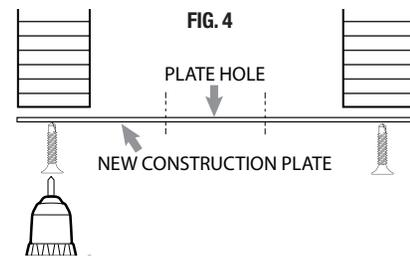

FIG. 4
3. INSTALLING MOUNTING PLATE AND PREPARING THE CEILING: Place plate in desired position and screw into ceiling joists (FIG. 4). Install incoming electrical power connections for fixture power supplies. See instructions for specific fixtures to set possible options like color temperature or power settings before installing power supply in ceiling space. Install (where applicable) integral power supply, driver or wiring compartment onto mounting plate where indicated.